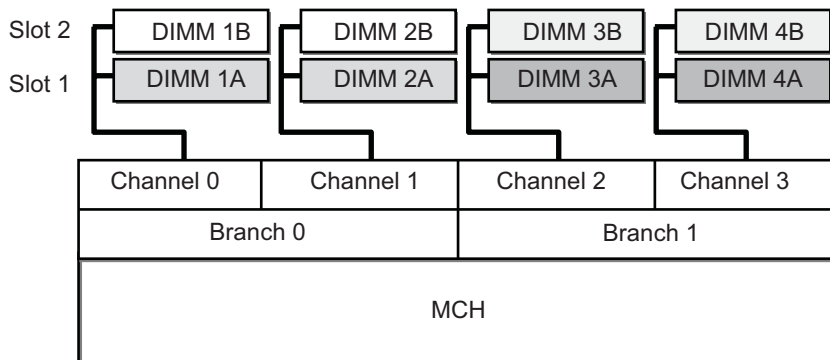
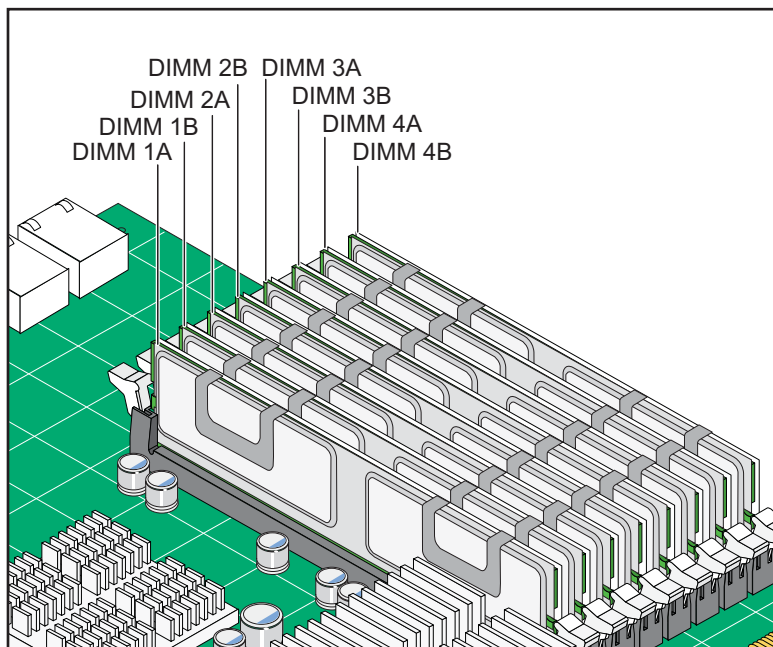

Figure 2-9 Memory Block Diagram
Figure 2-10 Node Board DIMM Layout
Each node board supports two to eight 240-pin DIMMs that can provide up to 32 GB of ECC fully buffered DIMM (FBDIMM) DDR2-800 SDRAM (refer to Figure 2-9 and Figure 2-10). Memory can be installed in both interleaved (dual-channel) and non-interleaved (single-channel) configurations. All memory modules used to populate the system should be the same size, type, and speed.
- To configure memory for maximum performance, balance the DIMM capacity across both memory branches; for example, if you install 2GB of memory in Branch 0, you must also configure 2GB of memory in Branch 1 (refer to Figure 2-9).